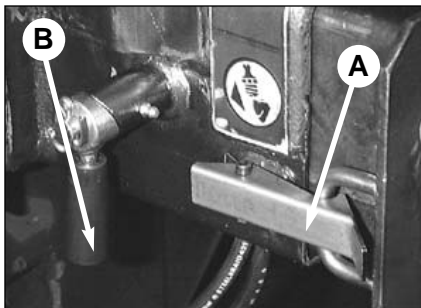
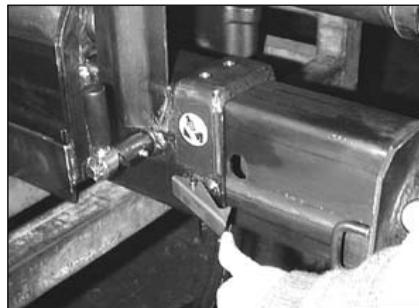

fig. 8
fig. 8a
Identification data of the supplementary beam is punched on the beam (fig. 8) in the following sequence:
- Position the lever **B** of the locking device (fig. 8), placed on the base, upwards (fig. 8a); the spring loaded security pin of the device will be released from its position.
- Release the locking device (fig. 8a) bringing it to the outside of the hook spring **A** and simultaneously pull, extending from the base the outrigger support.